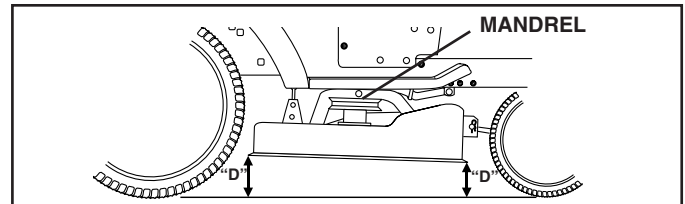

FIG. 19
**FRONT-TO-BACK ADJUSTMENT** (See Figs. 19 and 20)